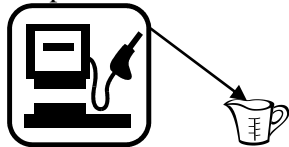

Fig. 1
4. Pull hose in a straight diagonal line down to funnel opening until all liquid in hose drains to the nozzle end (Fig. 1).